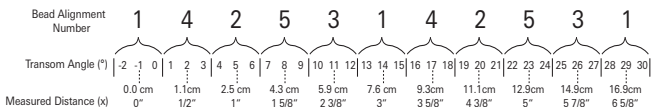
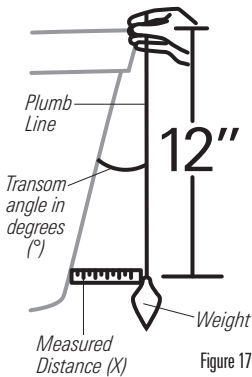

Figure 16
Figure 17
- If you already know your transom angle**, refer to the chart below for the initial position to use to set the ratchets (Figure 16). If your transom is angled at 14 degrees (a common transom angle for many boats) use position 1 for the ratchets. In either case, go to step 2.
- If you do not know your transom angle**, measure it using a plumb line (weighted nylon string or monofilament line) exactly 12 inches (30.48 cm) long. Hold the top of the plumb line against the top of the transom with your finger, and wait until the line hangs straight down (Figure 17). Using a ruler, measure the distance from the **bottom** of the plumb line to the back of the transom, then use the chart (Figure 16).
**NOTE:** It is important to take your measurement in the location shown in Figure 17, from exactly 12 inches (30.48 cm) down from the top of the transom.